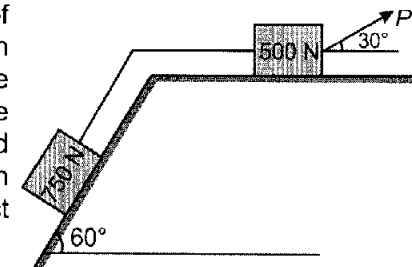

Figure 3
3. (a) State Coulomb's law of friction. Also discuss the 'Angle of friction' and 'Angle of repose'. (4)
- (b) What is the least value of P in the system shown in Figure 3 to prevent the motion? Assume the pulley is smooth and coefficient of friction between the other contact surfaces is 0.3. (6)